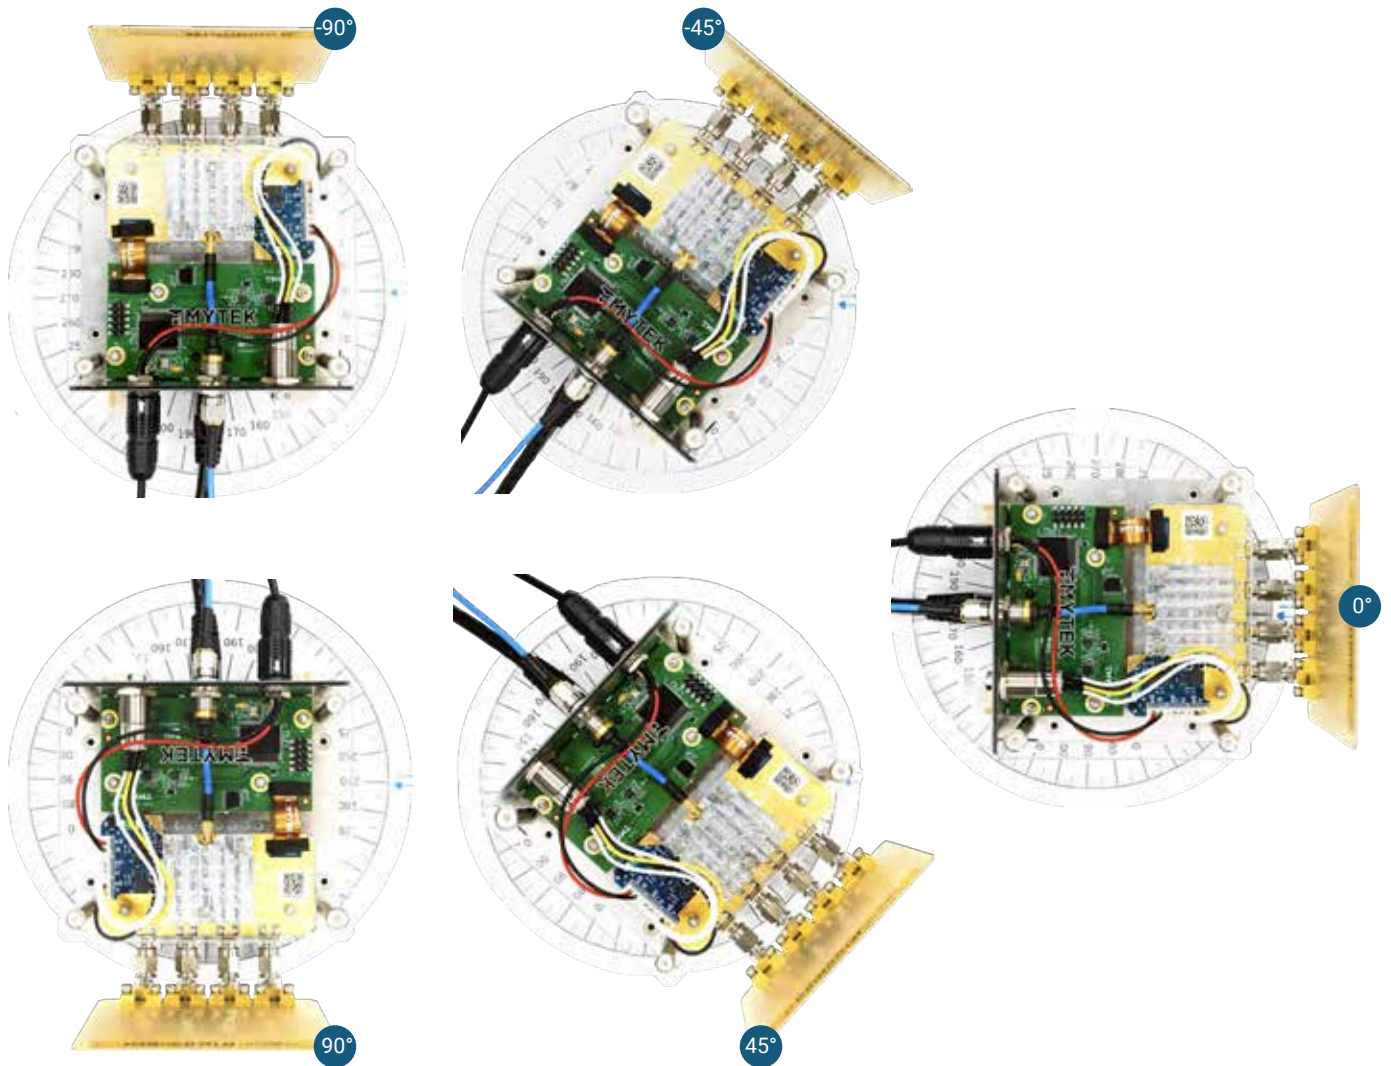

Figure 15. Move the BBoard from  $-90^\circ$  to  $90^\circ$
h. Rotate the BBoard from  $-90^\circ$  to  $90^\circ$  in  $5^\circ$  increments away from the horizontal line while maintaining the 50 cm distance, and record the detected power on the LTC5596 GUI separately as shown in Figure 15.